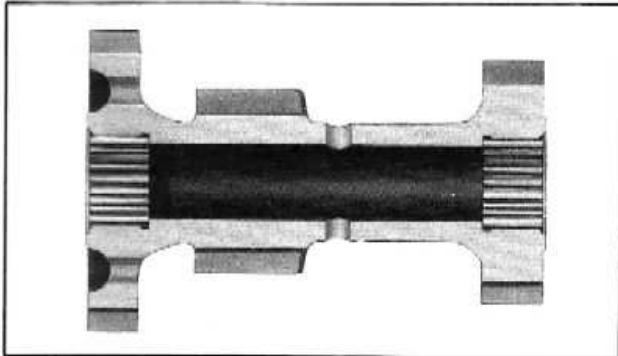

Fig. 11—Countergear Roller Bearings
- Coat the roller bearing area in each end of the gear with cup grease. Insert countershaft in the gear, and place gear and shaft on the bench with the large diameter end of the shaft down. Insert twenty-five rollers in this end of the gear, then reverse the position of the counter gear on the bench and insert twenty-five rollers at the opposite end as shown in Fig. 11. Remove countershaft (note that the rollers remain in place and flush with the ends of the gear).